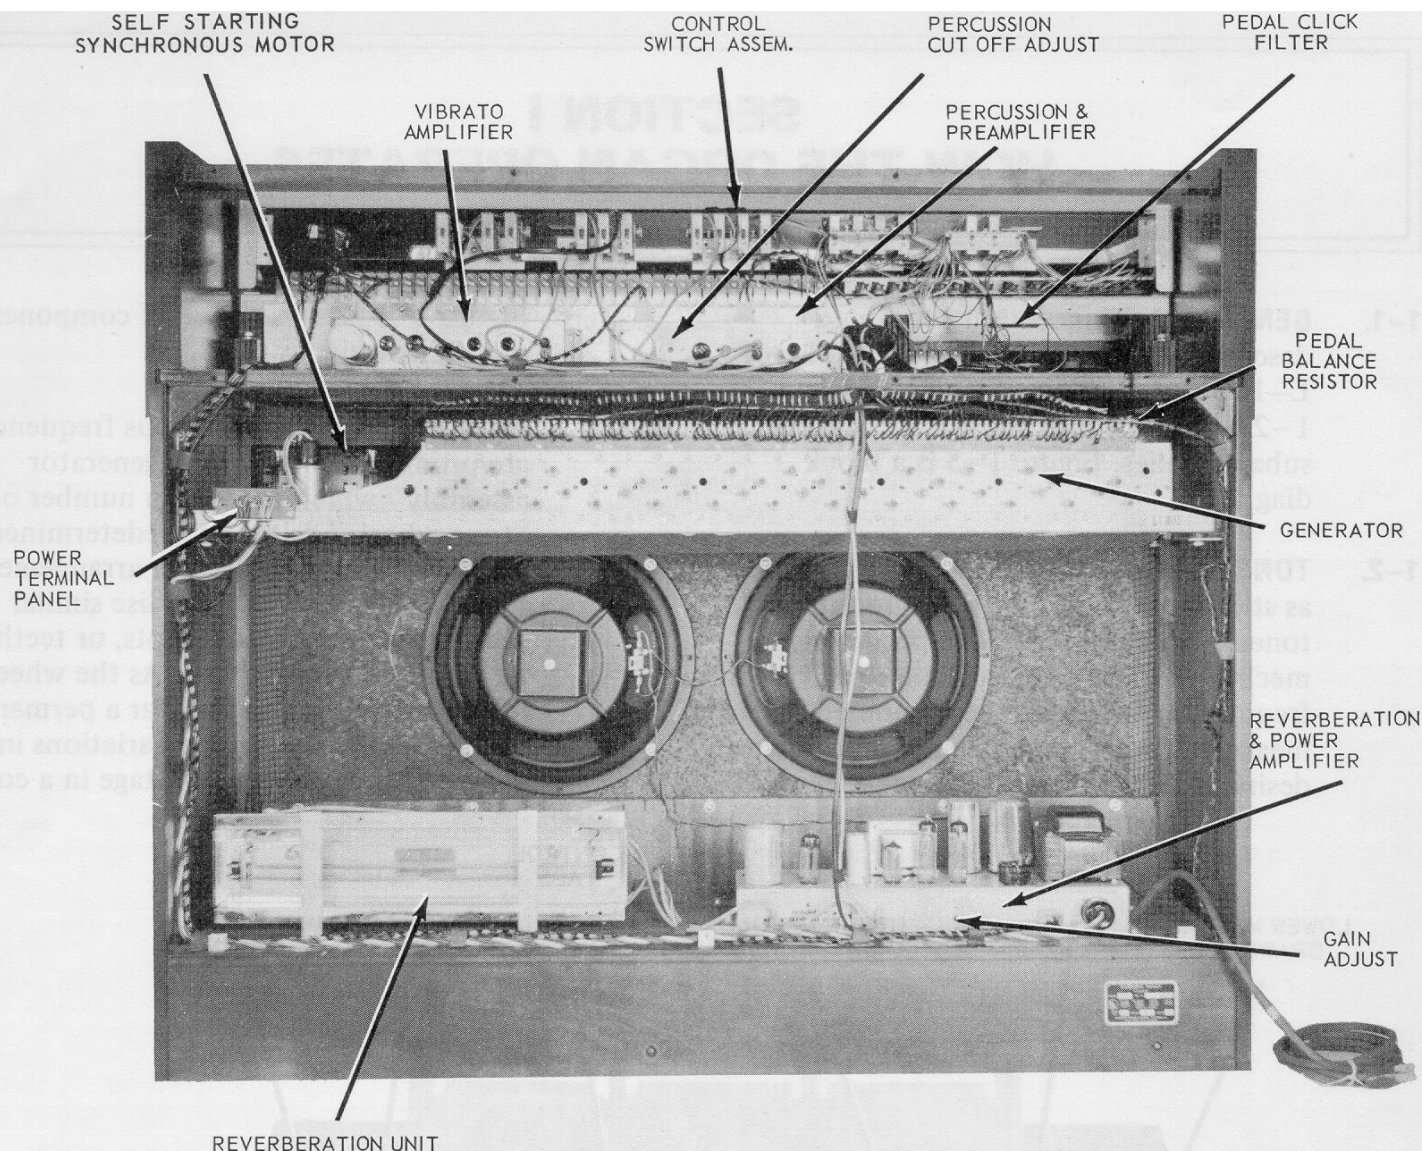

Figure 1-2. L-100 Console, Rear View
**1-3. MOTOR AND POWER SWITCH.** — The tone generator assembly, in which all tones of the organ originate, is driven at constant speed by a self starting synchronous motor, operating at 1800 RPM, located at the left side (rear view) of the console (Figure 1-2). (In 50 cycle organs, the generator speed is 1500 RPM).